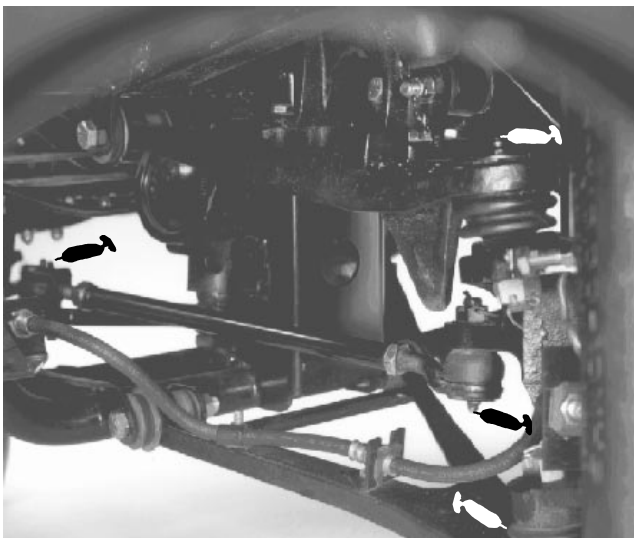

Figure 28
GREASING BEARINGS AND BUSHINGS (Fig. 28–34)
The grease fitting locations and quantities are: Tie rod ends (4) (Fig. 28), Front ball joints (4) (Fig. 28), Rear drive shafts (18) (Fig. 29) Front pivot bushings (2) (Fig. 30); Mid drive shaft – 4 wd only (3) (Fig. 31); Pedal Pivots (4) (Fig. 32); Steering shaft (1) (Fig. 33) and Accelerator Arm (1) (Fig. 34).